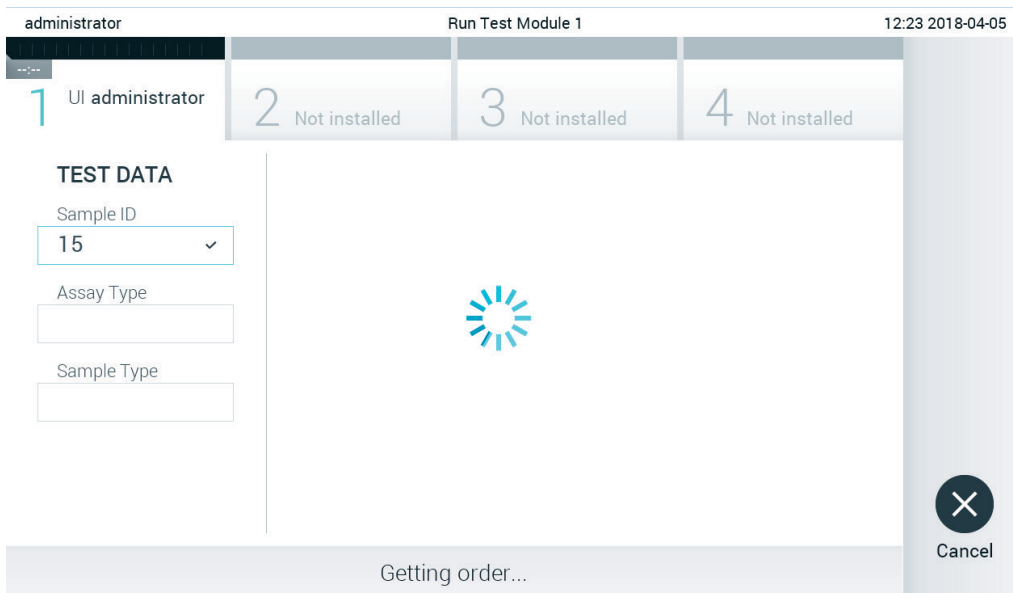

Figure 76. Display during test order retrieval.
3. The sample ID will be sent to the host and while the QIAstat-Dx Analyzer 1.0 waits for a test order, the message “Getting order...” is displayed (Figure 76).